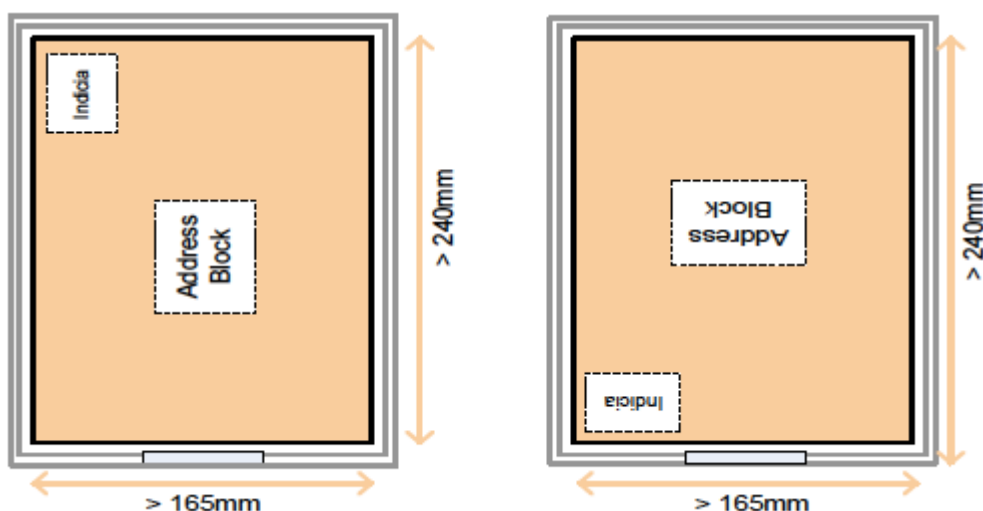

Figure 9 – Tray fill (landscape and portrait)
- Landscape - the address and Access Indicum uppermost in the tray, face up, and with the Access Indicum away from the tray front and label. **Figure 9.**
- Portrait - the address and Access Indicum uppermost in the tray, face up, and with the Access Indicum adjacent to the tray front and label. **Figure 9.**